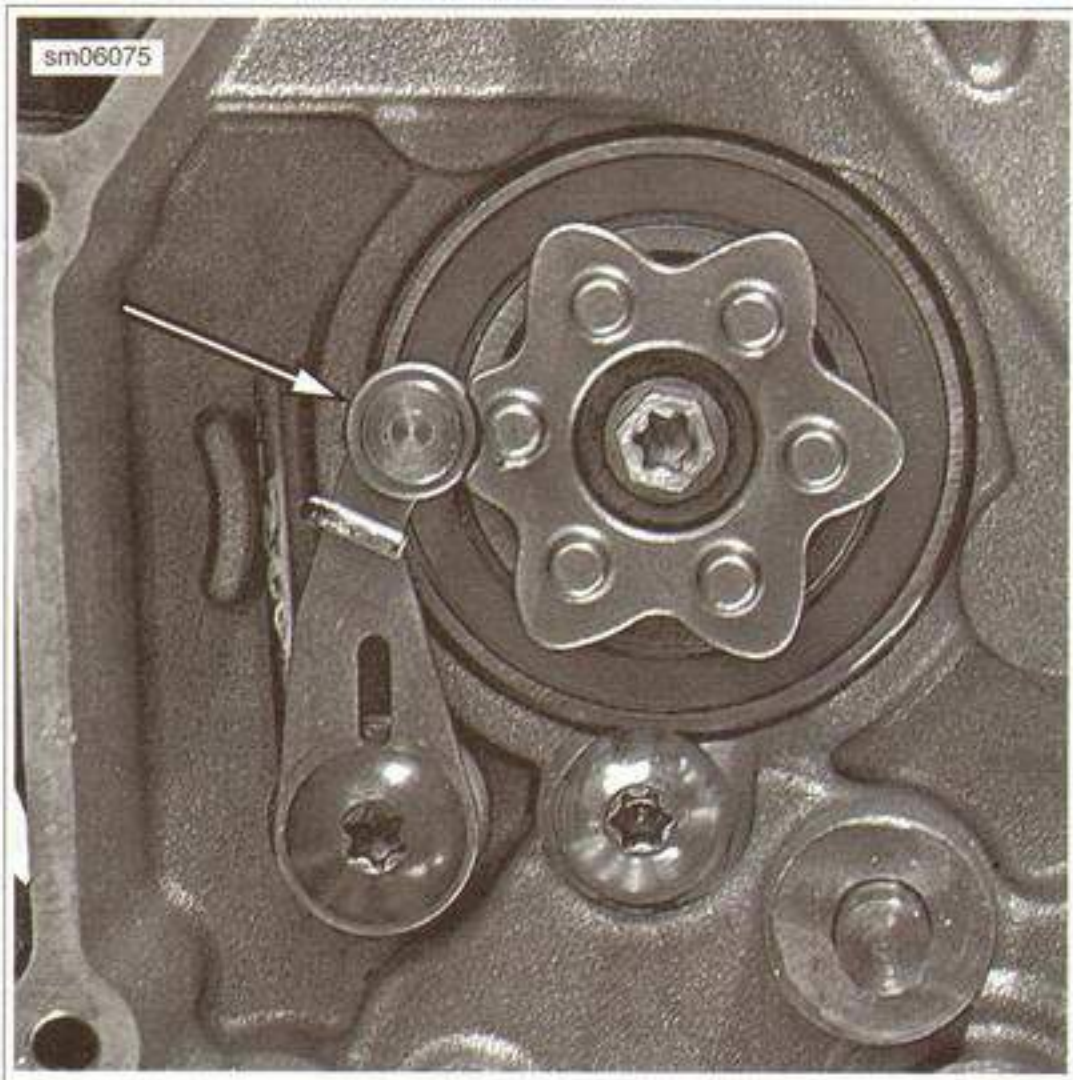

Figure 6-66. Detent Wheel
1. See Figure 6-66. Remove fastener, index lever, step ring and spring.